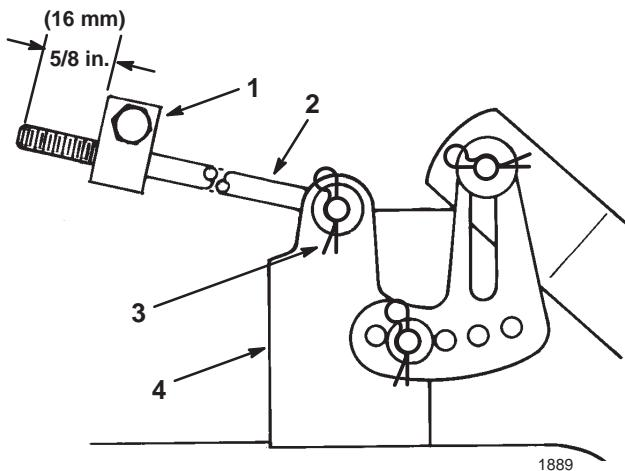

Figure 50
5. Measure the length of the rod extending out of the front of the adjusting block on the sides of the chassis (Fig. 50). If the rod length is not $5/8$ in. (16 mm), remove the hairpin cotter and washer from the end of the rod (Fig. 50) and turn the rod until the $5/8$ in. (16 mm) dimension is obtained. Then install the end of the rod into the hole in the mower mount and secure it with the washer and hairpin cotter. Repeat this procedure on the opposite side of the mower.